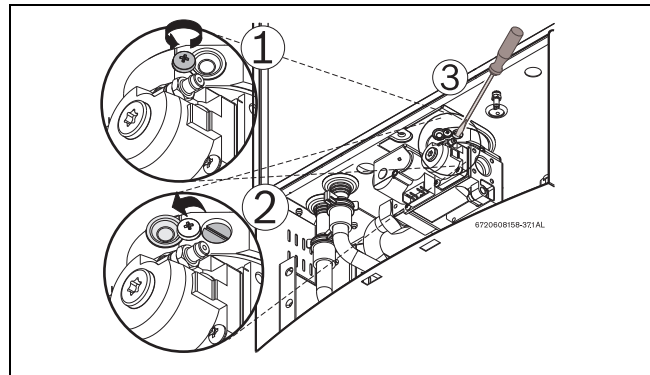

Fig. 74 Adjusting P1 CO2 level
- ▶ Loosen yellow painted Phillips screw (1) and cover should rotate down (2) revealing a recessed brass slotted screw. Fig. 74.